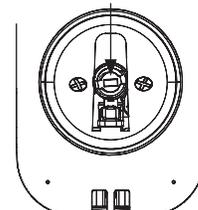

Figure 7A
- Install inside escutcheon on inside mounting plate. Note in Fig. 7A the horizontal orientation of the tail piece as you insert the inside escutcheon (thumb turn should be vertical).
- Install and secure using (3) M4 x 8mm pan head screws through the inside escutcheon into the mounting plate.